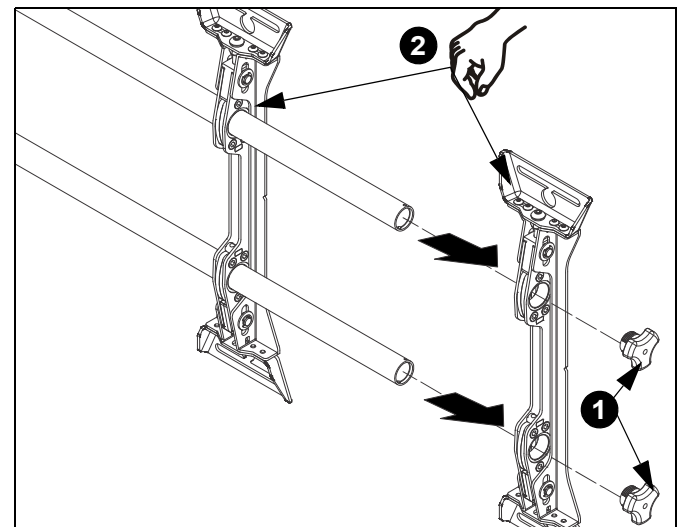

Figure 9
1. Remove caps from one side of mounting rails on XTM1U/ XSM1U mount. (See Figure 9)
2. Slide both Fusion wall plates off XTM1U/XSM1U mount rails. (See Figure 9)